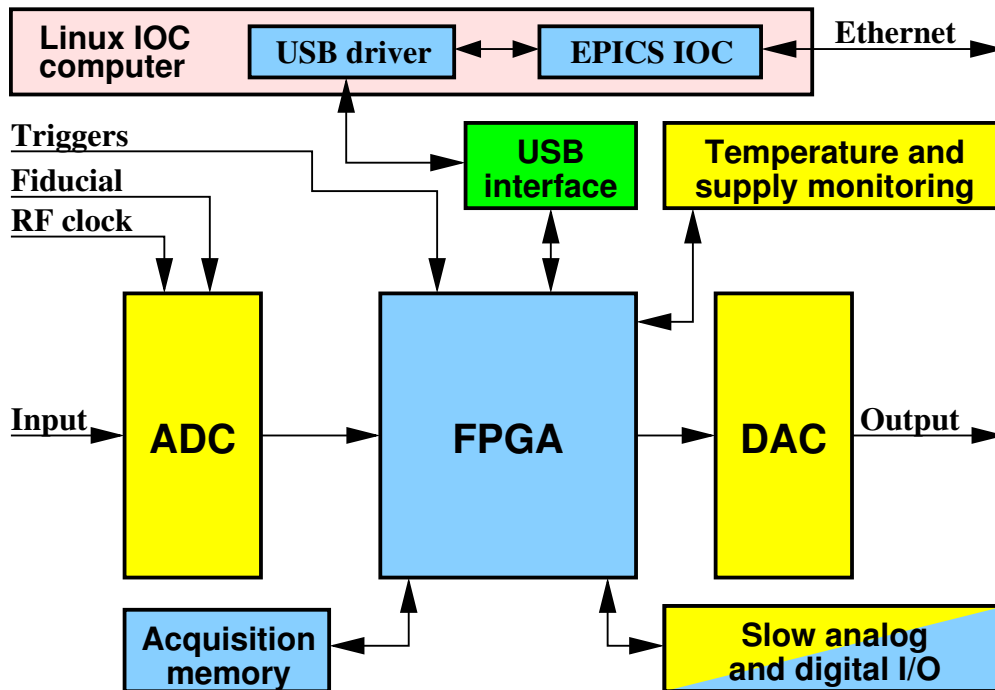

Figure 1: iGp12-720F block diagram
A block diagram of the iGp12-720F system is shown in Figure 1. The main signal processing chain consists of a high-speed 12-bit analog-to-digital converter (ADC), a field programmable gate array (FPGA), and a high-speed 12-bit DAC, all driven by the radio frequency (RF) clock. In addition to performing real-time control computations, the FPGA interfaces to a number of on-board devices, such as high-speed data acquisition memory (static random access memory (SRAM)), low-speed analog and digital input/output (I/O), as well as temperature and supply voltage monitors. In turn, the FPGA uses an internal universal serial bus (USB) connection to communicate to an embedded input-output controller (IOC) computer housed in the same chassis. The IOC runs the Linux operating system and is connected to the overall control system via the Ethernet.